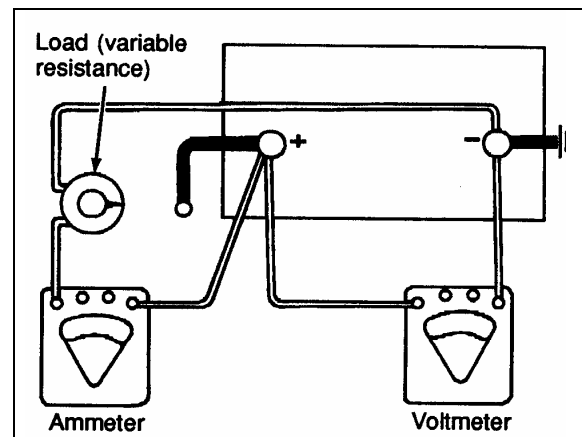

FIGURE 13: LOAD TEST
1. Connect a voltmeter, ammeter, and a variable load resistance as illustrated in figure 13.